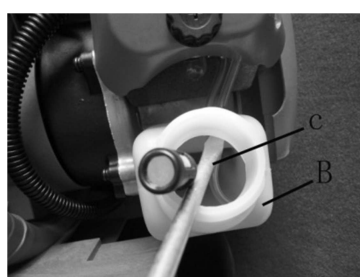

Fig.20
1. Completely remove fuel cap from fuel tank(B) to be able to remove fuel filter(C) from tank. Use a piece of wire(C) with a hook formed at the end to pull filter out of tank.(Fig.20)